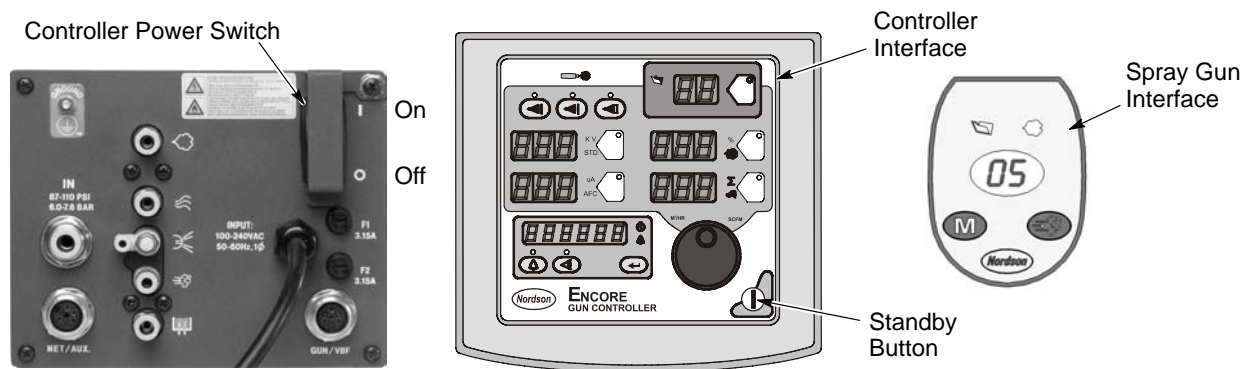

Figure 3-1 System Controls
- See Figure 3-1. Make sure the spray gun is not triggered, then turn on controller power. The displays and icons on the controller interface and gun interface should light.
Use the **Standby** button shown in Figure 3-1 to shut off the interface and disable the spray gun during breaks in production. When the controller interface is off the spray gun cannot be triggered, and the spray gun interface is disabled.